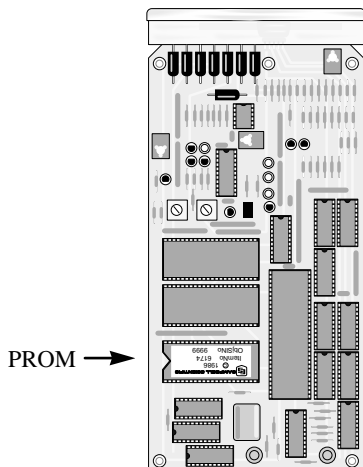

FIGURE 6. CR10 CPU Board Oriented so that the Connectors are on the Top of the Drawing
10. See Figure 6 to locate the PROM on the CR10 CPU board. The installed PROM has a notch on the left side when the CPU board is oriented as in Figure 6. The replacement PROMs must also be installed with the notch on that side.